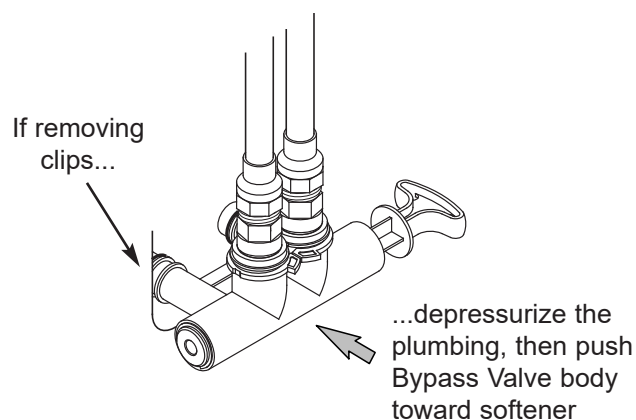

FIG. 18
- g. Check for leaks around clips at softener's inlet and outlet. If a leak occurs at a clip, depressurize the plumbing (turn off the water supply and open faucets) before removing clip. When removing clips at the softener's inlet or outlet, push the single bypass valve body toward the softener (See Figure 18). Improper removal may damage clips. Do not reinstall damaged clips.